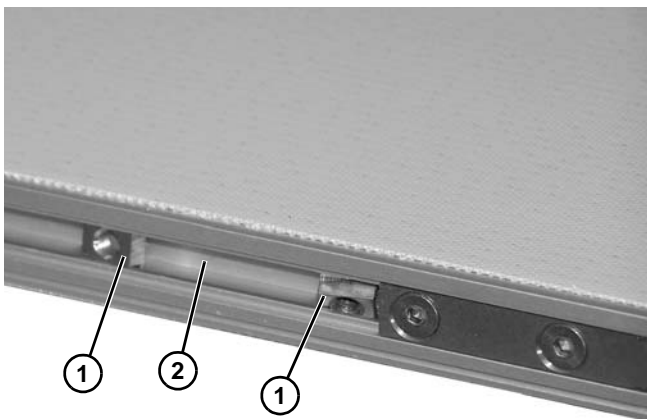

Figure 7
1. For standard mounting brackets, insert one T-bar (**Figure 7, item 1**), or pivoting mounting brackets, install two T-bars (**Figure 7, item 1**) into conveyor side slots (**Figure 7, item 2**).